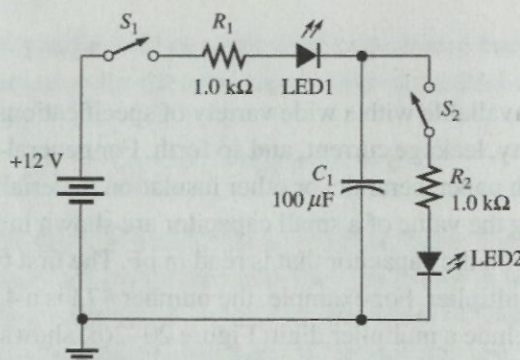

Figure 20-3
3. Connect the circuit shown in Figure 20-3. The switches can be made from jumper wires. Leave both switches open. The light-emitting diodes (LEDs) and the capacitor are both polarized components—they must be connected in the correct direction in order to work properly.